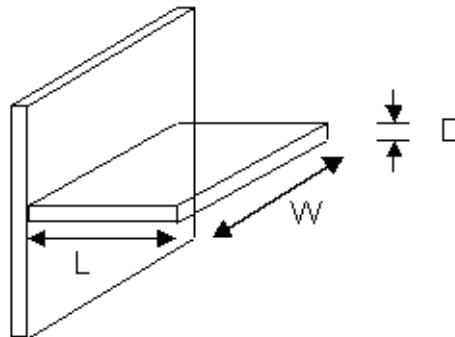

Figure 4b Schematic of finned heat sink
- d. A square Aluminium plate heat sink of dimensions $50 \times 50 \text{ mm}$ is being heated to a temperature of 80°C on one face. Forced convection is maintaining the other face at 20°C . Assuming a heat transfer coefficient (h) $= 110 \text{ W/m}^2\text{K}$, calculate the total heat transfer from the heatsink. If a single rectangular fin of dimensions $L = 50 \text{ mm}$, $W = 50 \text{ mm}$ and $T = 5 \text{ mm}$ is now attached to the cooled side (see Figure 4b), calculate the total heat transfer from the finned heatsink. Assume the efficiency of the heat-sink is 0.8